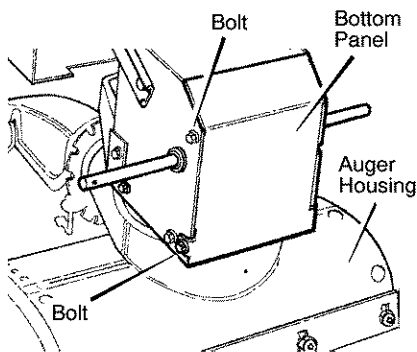

Figure 19
2. Loosen the **bolts** on each side of the **bottom panel** (see Figure 19).
13. Install the **bottom panel** (see Figure 19).